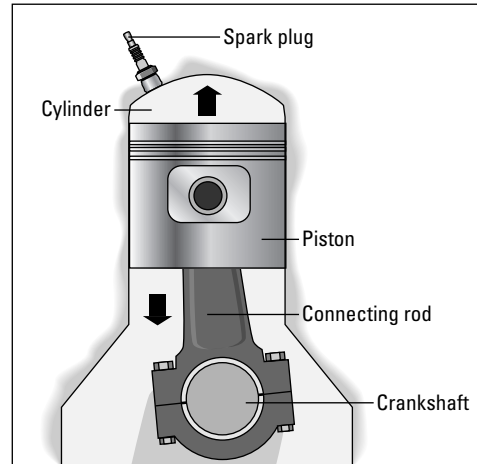

Figure 4-4: A cylinder and piston.
- The *fuel/air mixture* passes into the *cylinders* in your engine. A cylinder, as shown in Figure 4-4, is a hollow pipe with one open end and one closed end. Inside each cylinder is a *piston*, which fits very snugly and moves up and down. The piston moves up, trapping the fuel/air mixture in the upper part of the cylinder and compressing it into a very small space.